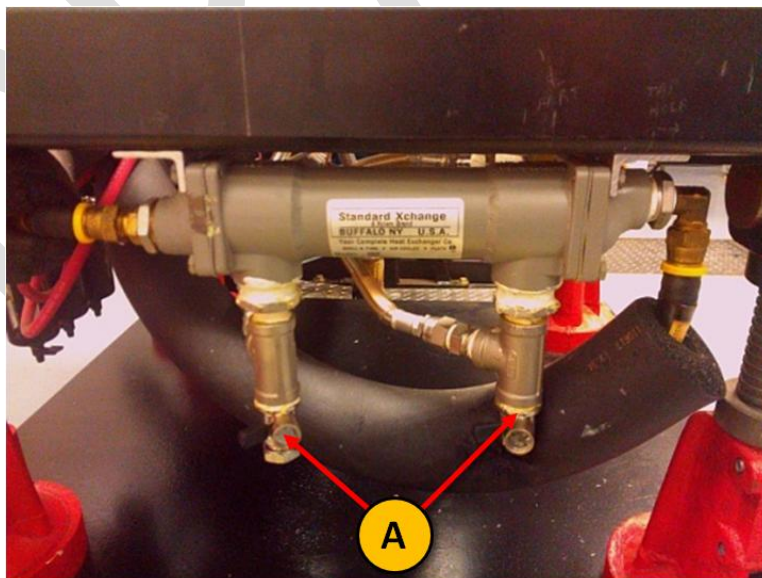

Figure 5. Oil heat exchanger drain valves (A)
3. Energize the flush cart pump and allow the mineral spirits to circulate for one hour. Refer to Figure 5. At the end of one hour, de-energize the flush cart pump, and open both heat exchanger drain valves to allow mineral spirits to drain out from the heat exchanger.
- Engine oil drains at the oil sump and heat exchangers are closed (see Figures 5 and 7)